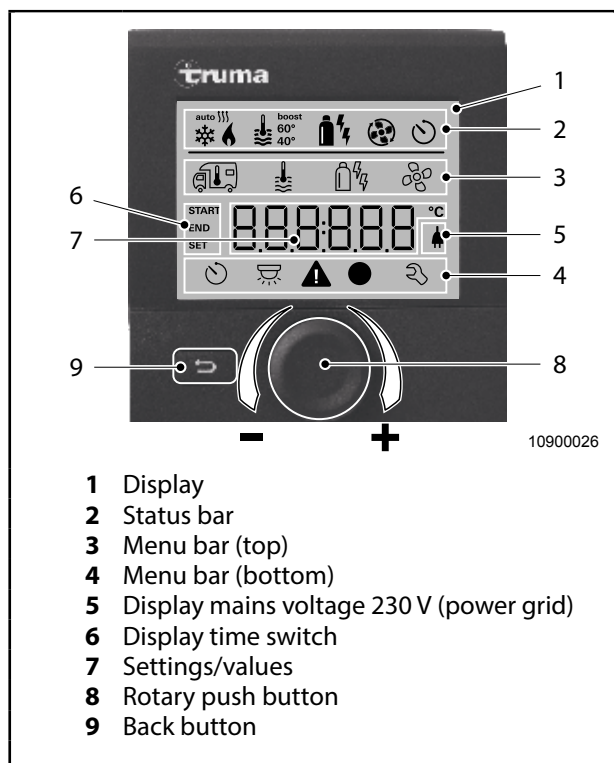

Fig. 79 Truma CP plus control (optional accessory)
Rotary push button (Fig. 79, item 8) serves to select menus or to change the values to be set.
Back button (Fig. 79, item 9) serves to switch back to the previous menu or previous display.